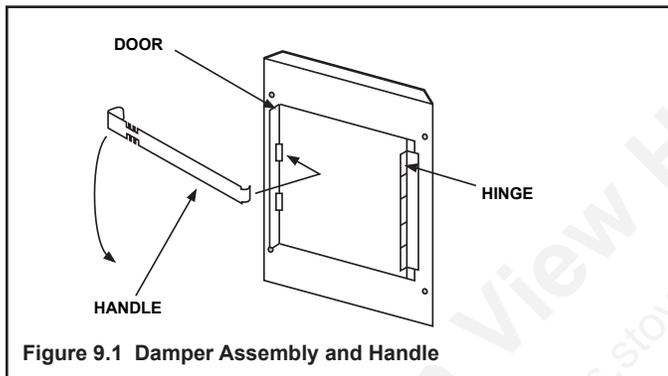

Figure 9.1 Damper Assembly and Handle
- Locate door hinge toward back of appliance (see Figure 9.1).